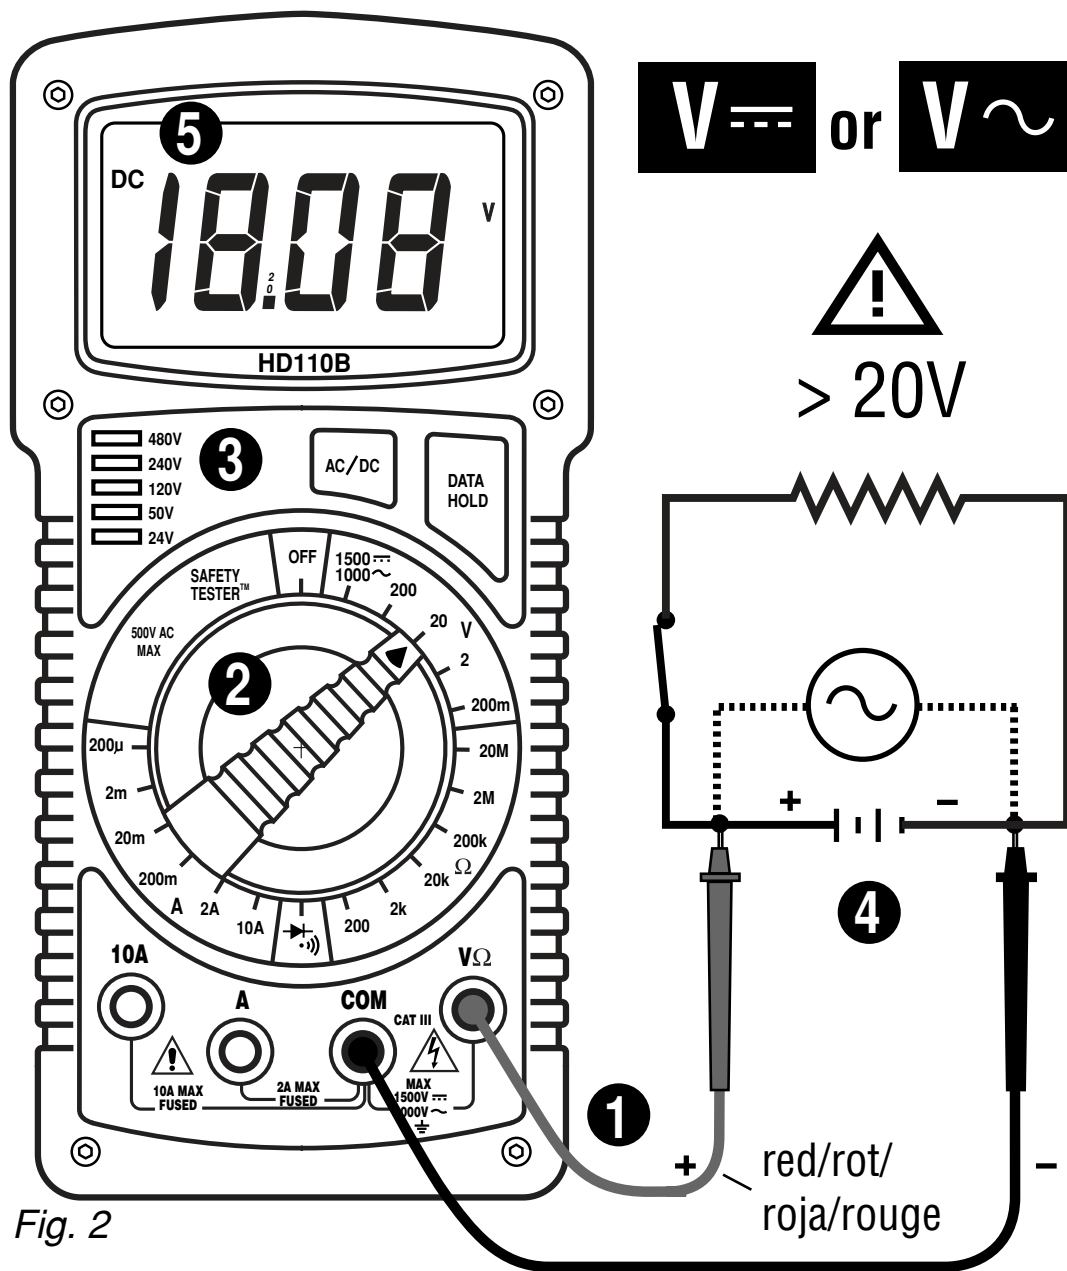

Fig. 2
## **DC AND AC VOLTAGE MEASUREMENT (See Fig. 2)**
❶ Connect test leads to the meter as shown in figure 2. ❷ Turn function selector switch to V and the desired range. ❸ Press the AC/DC menu button to display either AC or DC indicator. ❹ Touch Probe tips across voltage source (in parallel with circuit). ❺ Voltage value will appear on Digital Display along with the voltage polarity (for DC).
### **D • Gleich- und Wechselspannungsmessung (Siehe Fig. 2)**